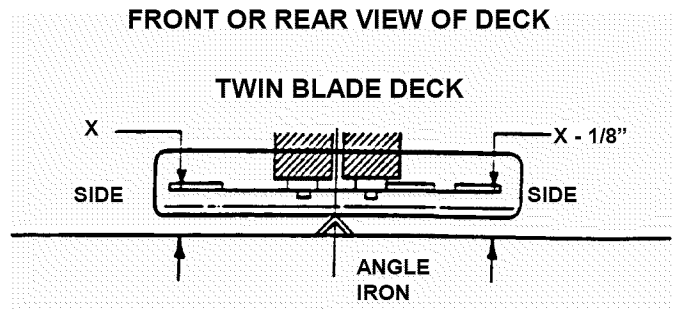

FIGURE 4.7
- e. Measure the distance from blade tips to floor. If the measurement is within 1/8" from side-to-side, the deck levelness is satisfactory. If the difference from side-to-side is greater than 1/8", continue to the Step "f" for adjustment. See Figure 4.7.